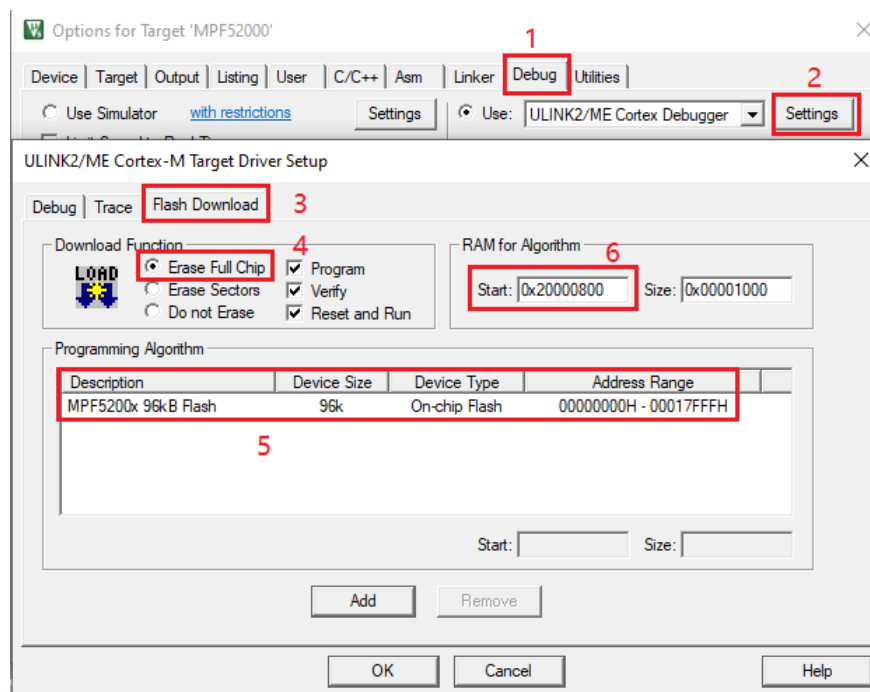

Figure 14: Set-Up
- e. Click “Options for Target...” > “Debug” > “Settings” > “Flash Download”. Ensure that the set-up is the same as below (see Figure 14).